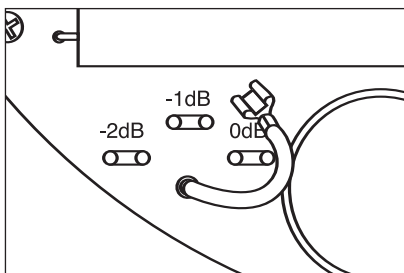

Figure 21 Setting the bass jumper.
10. Setting the bass jumper. Listen to a well-recorded piece of music at the user's favorite listening position. Listen for bass boominess, particularly when the loudspeaker is placed near a corner. Remove the loudspeaker by grasping the tabs and rotating counter-clockwise. Adjust the bass jumper (-1dB, -2dB) accordingly. (See Figure 21).